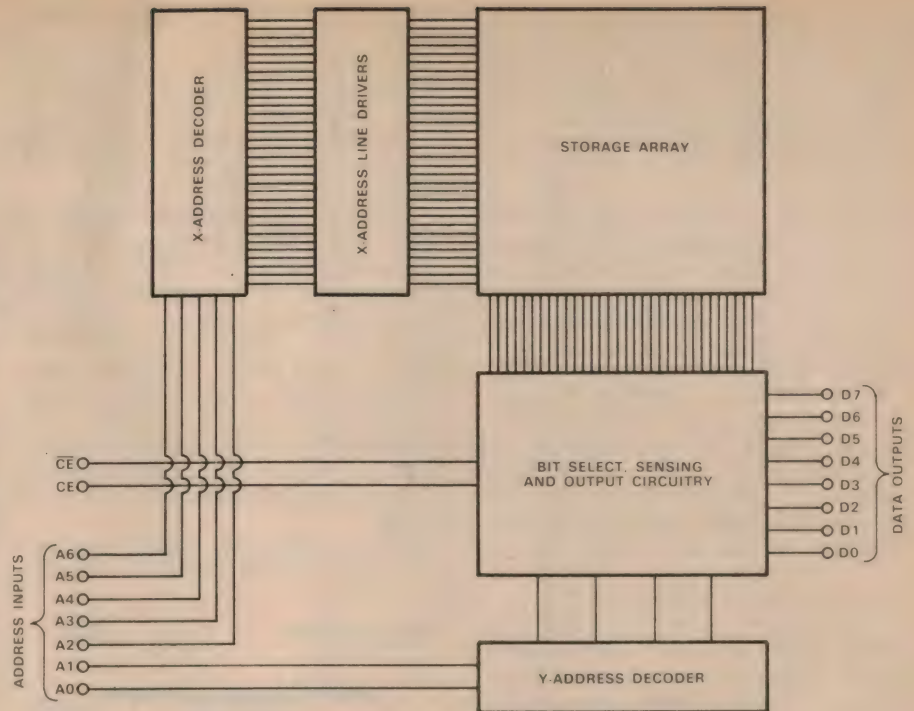
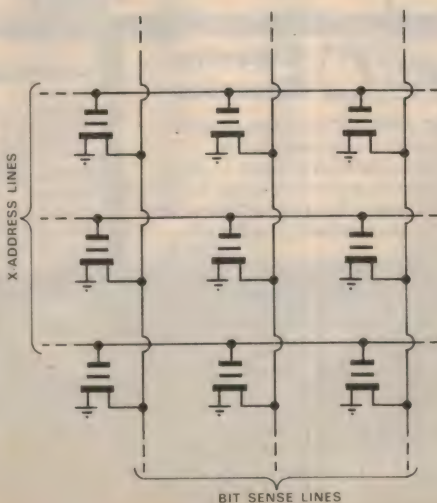

FIG. 2 : 1024-BIT ROM WITH TYPICAL ORGANISATION
FIG 5 ARRAY OF MNOS OR FAMOS CELLS
A ROM of this type is typically organised as shown in Fig. 2. As you can see, it is very similar to that of a RAM as given in the last chapter. The main differences are that there is no read/write control line, and the data pins are purely outputs.
Note that Fig. 2 shows a 1024-bit ROM, whose internal array is actually organised as 32 rows by 32 columns. The external organisation is different, however, being 128 x 8—i.e., the ROM is arranged so that it effectively stores 128 bytes each
The overall organisation of a fusible-link PROM is very similar to that of Fig. 2.
Fig. 5 shows the way both MNOS and FAMOS cells are typically connected in an EPROM storage array. As you can see the X-address lines are used to form the gate select line for array rows, while the diffused drain lines become the Y-axis bit sense lines. The overall organisation of an EPROM is basically the same as in Fig. 2.
Basically, this is done by taking advantage of the "chip select" input involved provided on most of these devices. Two such inputs are shown in Fig. 2, for example, one effective when taken to the high logic level (CE), and the other when taken to the low logic level (CE-bar).